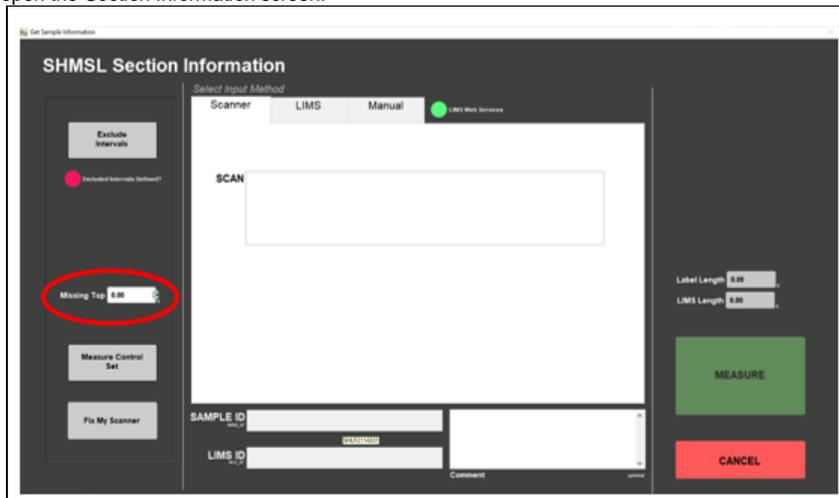

Figure 3. Section Information Screen
4. Place the cursor in the **SCAN** text field (center of Figure 3) and scan the section label, the information automatically fills for Expedition, Site, Hole, and so on.